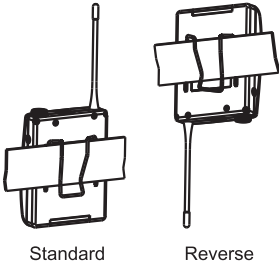

Fig. 2
- ❸ Transmitting Antenna
- ❹ Housing
- ❺ LCD Panel
- ❻ SET button
- ❼ MODE button
- ❽ Power Switch
- ❾ ACT Sync Window
- ❿ Battery Compartment
- ⑬ Reversible Belt Clip. Fig. 2
- ⑭ Battery Charging Contact (Rechargeable)
- ⑮ Battery protection circuit reset button (ACT-70TC/52TC/32TC Rechargeable)